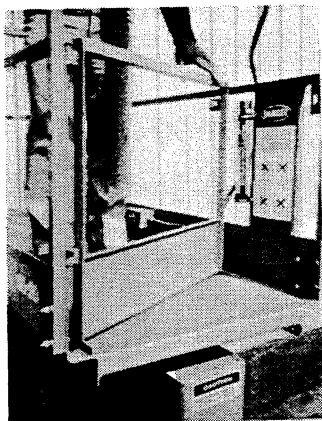

Figure 4.
2. After mounting platform, insure gate is closed and latched. (Figure 4).